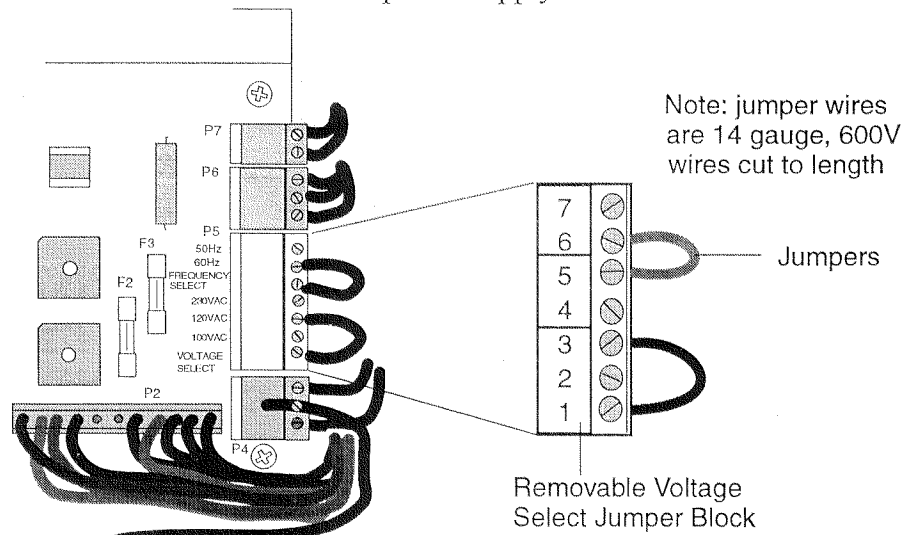

Figure 2.6. Removing Voltage Select Jumper Block
5. Remove the multi-pin “voltage select jumper block” from the mating circuit board pins. Refer to Figure 2-6. The jumper wires are attached to the block and are removed with it. If the connector is tight, carefully lift up on each side of the connector in equally small amounts. Repeat this process until you can easily remove the connector. Alternately, you can change the jumpers while the jumper block remains attached to the power supply board.